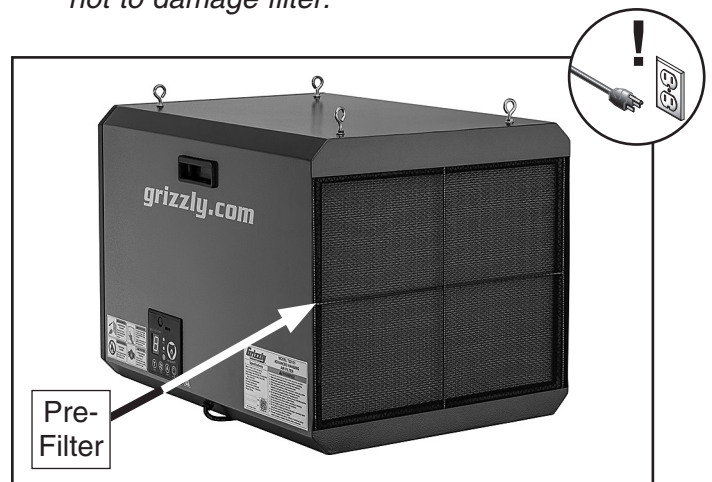

Figure 24. Location of pre-filter.
2. Remove pre-filter from intake side of machine (see **Figure 24**).